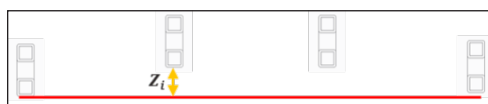

Figure 15: Flatness Verification (Top View)
- Inspect if the structure is curved by placing a horizontal reference in the vertical bar that has the furthest Z displacement when compared to the other bars. Refer to Figure 15. If possible, adjust the structure or plan ahead for section adjustments while installing the display sections if the difference between any two measurements Z_i exceeds 5 mm.